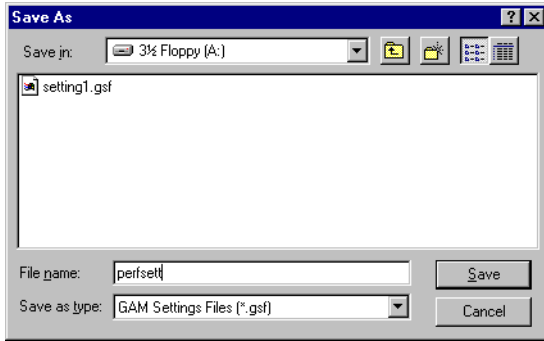

Figure 5-28. Save Settings to a File
1. Click Save Settings. A Save As dialog box is displayed (Figure 5-28).